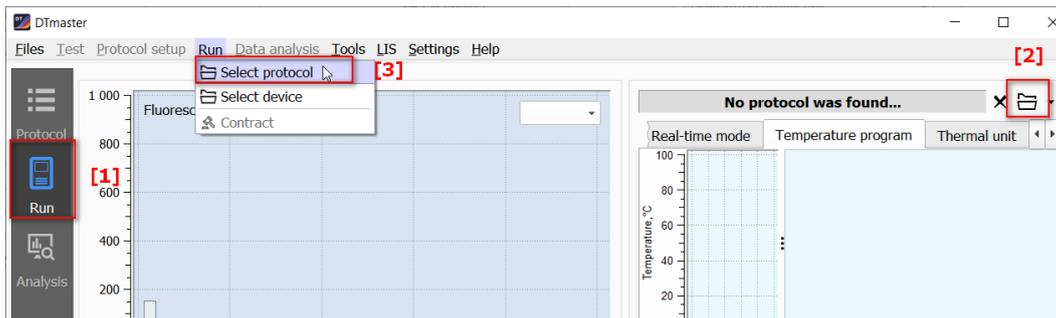

Figure 45 – Loading a previously generated protocol in the Run mode window
2. If the protocol (template) is saved on the user's computer as .rt, .trt file, open the **Run** mode [1], click the **Open protocol** button [2] and select the file with the required protocol (template) in the displayed window. Or on the **Run** menu, click **Select protocol** [3] (fig. 45)